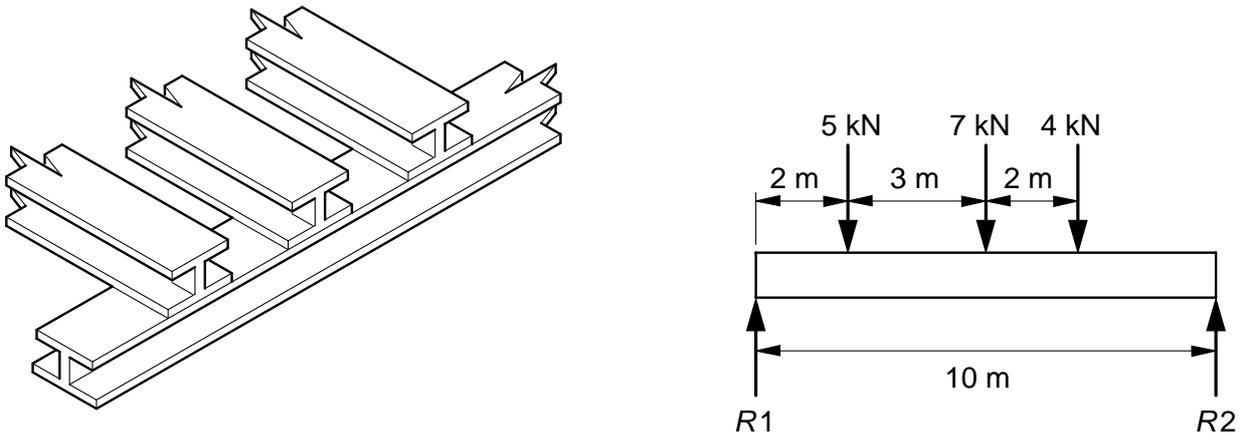

Fig. 4
- 5 Fig. 4 shows a loaded beam.